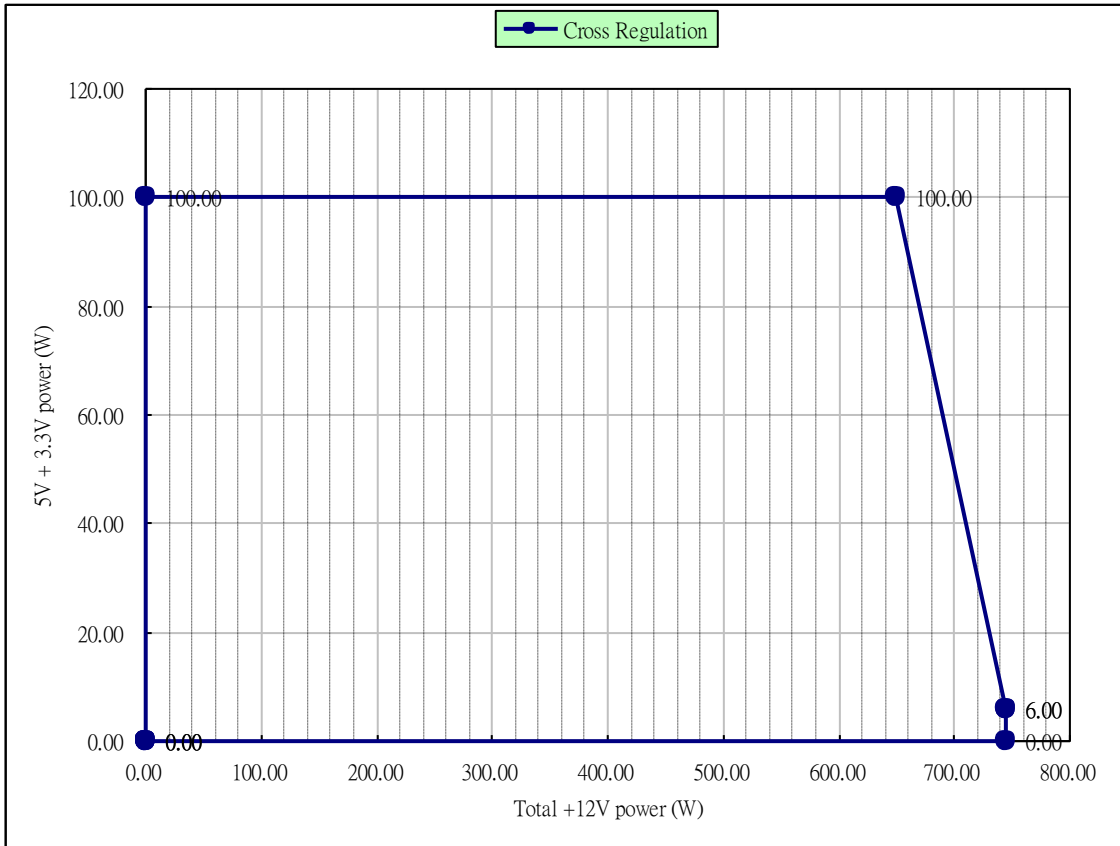

Figure 1
- +3.3V, +5V and +12V DC output voltage should be within Figure 1 cross loading range to meet regulation.
- Ripple and Noise measuring with an oscilloscope with 20 MHz bandwidth in Figure 1 cross loading range. Output should be bypassed at the connector with a 0.1uF ceramic disk capacitor and a 10uF electrolytic capacitor to simulate system load. The length of ground wire on probe should not longer than 40mm, if a Non - differential type of scope was used.
The +5V & +3.3V combined load and +12VDC load shall remain within the defined in section 2.0 over cross load combinations shown Figure 1: